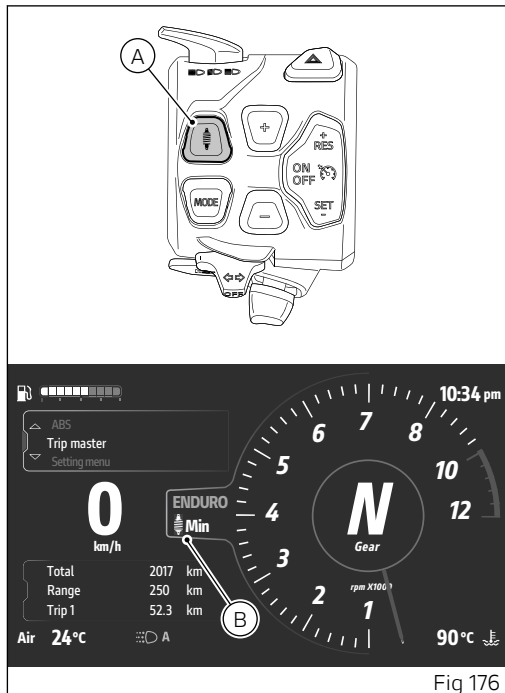

Fig 176
- 1) Press and hold button (A, Fig 176) for 2 seconds.
- 2) To confirm activation, "Min" (B, Fig 176) will appear on the instrument panel.
exceeded: following deactivation, the preload returns to its previous level depending on the specific Riding Mode and/or preload selected. It is also possible to manually deactivate the function at speeds below approximately 115 km/h (71 mph) indicated above by pressing and holding button (A, Fig 176) for 2 seconds.